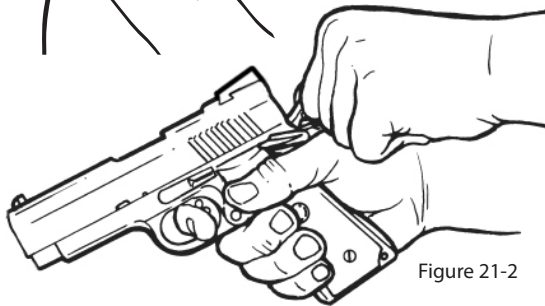

Figure 21-2
5. Carefully lower hammer as described in the **HAMMER LOWERING** section. (Figure 21-2)